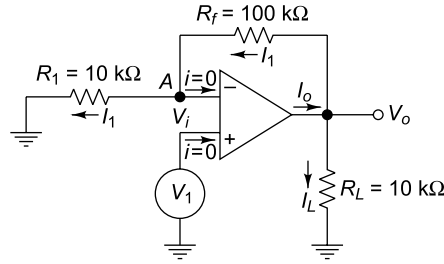

Fig. 5.6 Circuit of Ex. 5.4
5.4 Figure 5.6 shows the non-inverting amplifier, where $R_f = 100 \text{ k}\Omega$, $R_1 = 10 \text{ k}\Omega$ and $V_1 = 1 \text{ V}$.